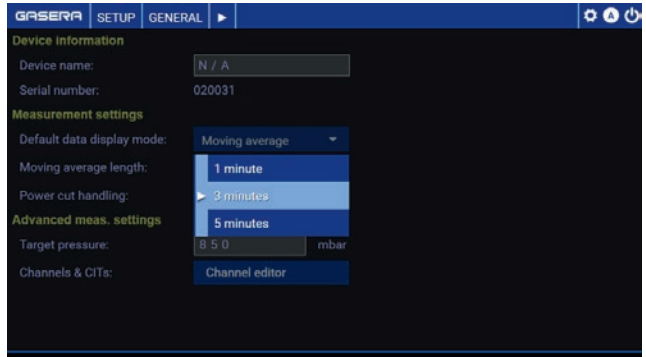

Figure 58. Setting the length of the moving average.
- **Moving average** – Measured concentration values are filtered with the moving average. Moving average length has three options: 1 min, 3 min or 5 min as illustrated in Figure 58.